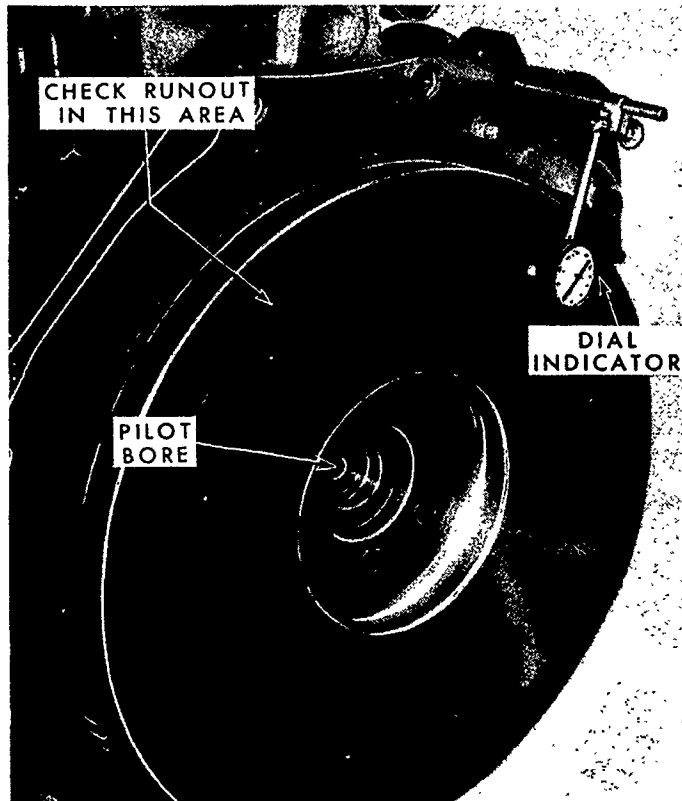

Figure 67
3. Before removing the flywheel attaching bolts, check the runout with a dial indicator, Figure 67. Measure runout between outer edge of friction surface and mounting bolt holes.